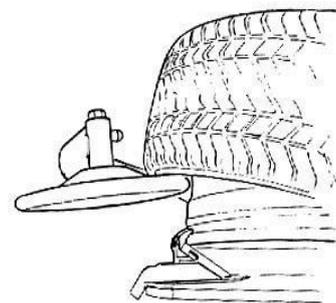

Fig 18
- a- Position the tire lifting roller and lift the bottom bead until it is in the drop center; ( Fig 18)